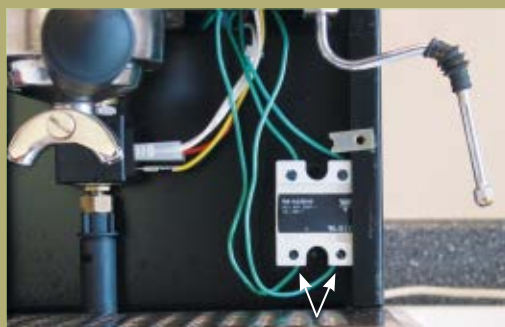

Fig. 4 SSR wiring detail.
- 6d.** Attach the wire marked with tape to the '+' terminal on the SSR. Attach the other wire to the '-' terminal (see Fig. 4).